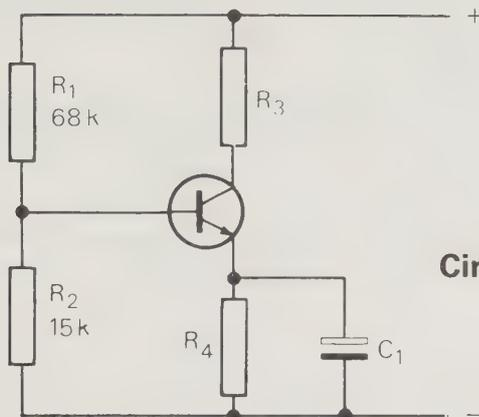

Fig. 1.3
Fig. 1.3 shows a bias circuit for a transistor. If the voltage at the base of the transistor be measured by connecting a multimeter between the base and supply negative, some current will be found to flow through the resistance of the multimeter; for this resistance is connected in parallel with the resistor  $R_2$  in the circuit itself.
*Example:* A transistor bias circuit having a 9V supply consists of a 68k and a 15k resistor arranged as in Fig. 1.3.